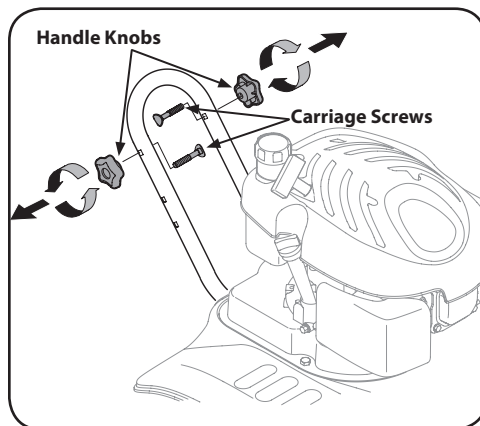

Figure 3-3
1. Remove the star handle knobs and the carriage screws from the lower handle. See Figure 3-3.